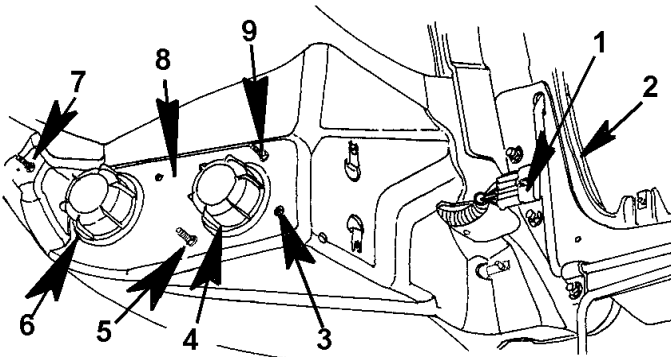
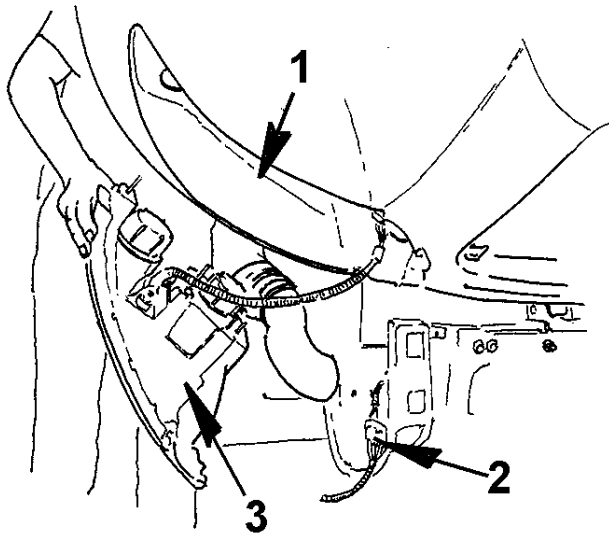

Figure 37 Headlight Assembly Remove
Figure 39 Headlight Assembly Remove and Install
1. Insert the headlight assembly into the headlight housing opening (Figure 39, Item 1), aligning the mounting studs (Figure 37, Items 3, 5, 7 and 9) with the mounting holes in the headlight housing.